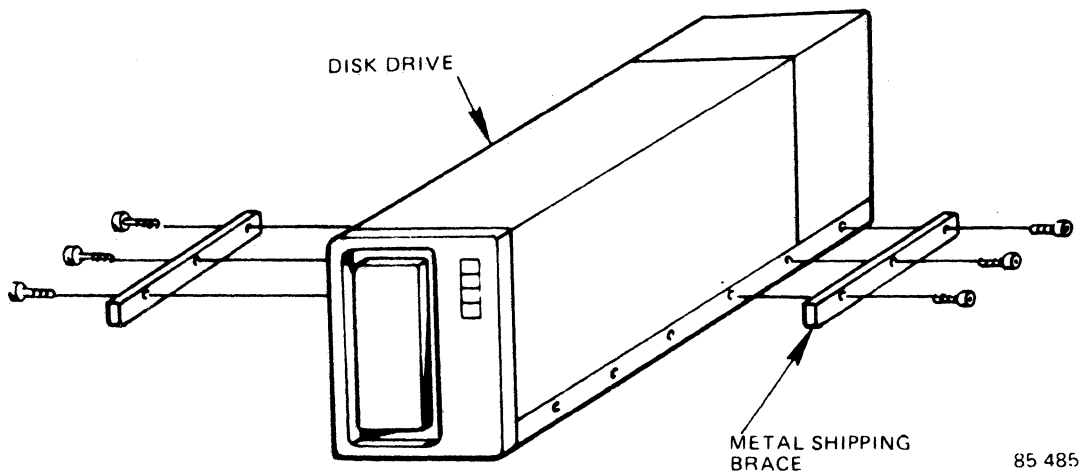

Figure 4-2. Installing the Shipping Braces
1. Install a shipping brace to each side of the disk drive as shown in Figure 4-2.